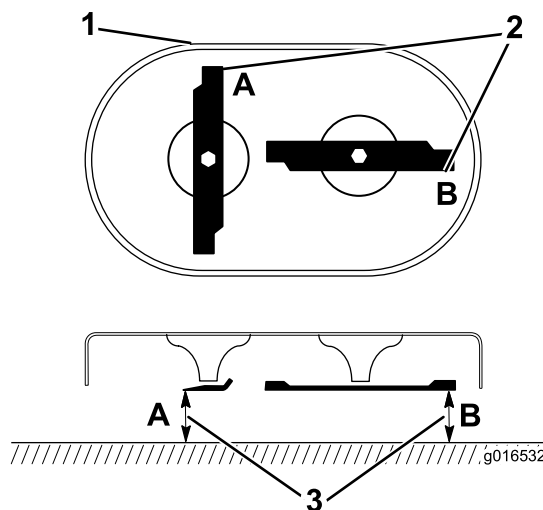

Figure 43
1. Rotate the blades until they are positioned as shown in Figure 43.